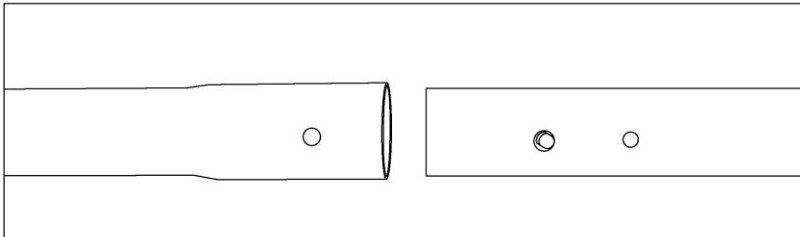

Fig. 9
- Take the hose end attachment wand and insert it into the lower attachment wand (utensil end). (Fig.9)